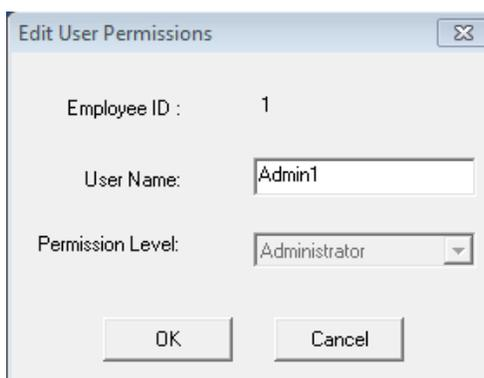

Figure 2-5: Edit User Permissions window
7. When the *Edit User Permissions* window opens (Figure 2-5), enter applicable values for these items: